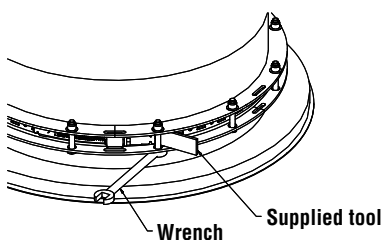

Figure 55 - Adjustable length, INSTALLATION STEP D
- Tighten all the bolts of the containing ring. For each bolt, use the supplied tool as a guide between the two containing rings (see **Figure 55**).